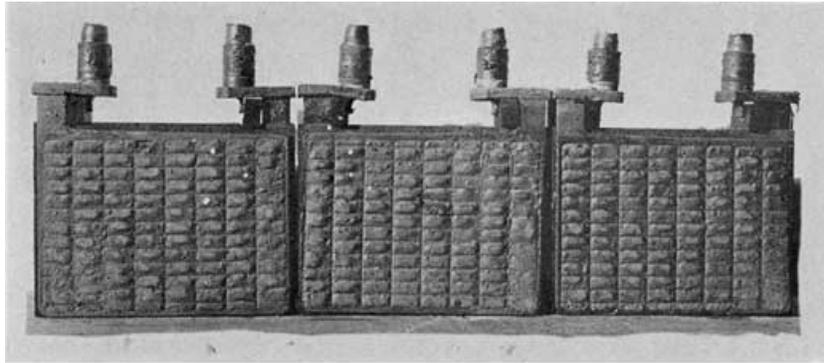

Fig. 213. Badly Bulged Negatives.
**3. "Badly bulged negative plates,"** Fig. 213, cause lack of capacity because the active material is loose, and does not make good contact with the grids. If the active material is not badly granulated (having a grainy appearance) the plates can be used again. Sulphated negatives have very hard active material, and will feel as hard as stone when scratched with a knife. Hard negatives from which active material has been falling in lumps will account of being overdischarged after having been in an undercharged condition and may be nursed back to life, if too much of the active material has not been lost.